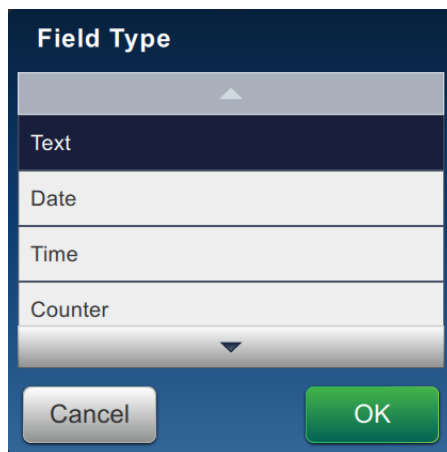

Figure 5-4: Add Field Options
7. Touch the  button and select the required options to add fields as shown in Figure 5-4.
1. Touch the  drop down list and select *Text* as shown in Figure 5-4 on page 5-4.